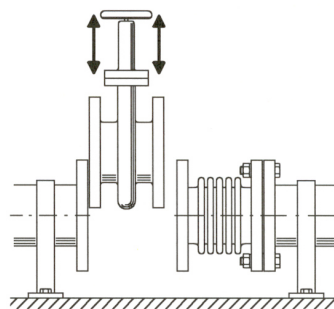
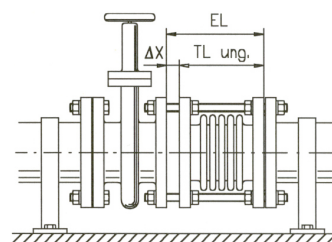

Fig. 8
Fig. 9
- Flange the disassembly joint to one pipe end (fig. 8). On the other side, pull the disassembly joint towards the components (valve, shut-off gate, pumps, etc.) either using long screws (unrestrained) or with the supplied threaded rods (restrained) (fig.9). When installed correctly, the disassembly joint is restrained (fig. 10).